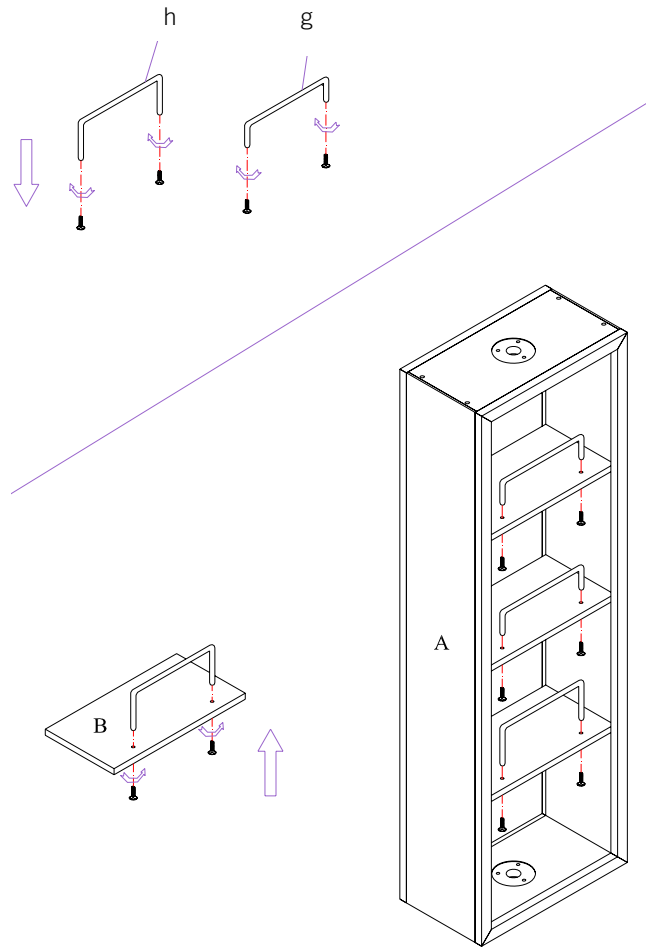

Figure 1
Step 1: Installation of the Bars - Figure 1
- b. Install the bars onto (3) the shelves of the cabinet and onto the Cap Board (B) (which will serve as the bottom shelf) by re-inserting the bolts from the bottom up into the bars as shown in Fig 1. Be sure to determine which sized bars for each shelf before installing.